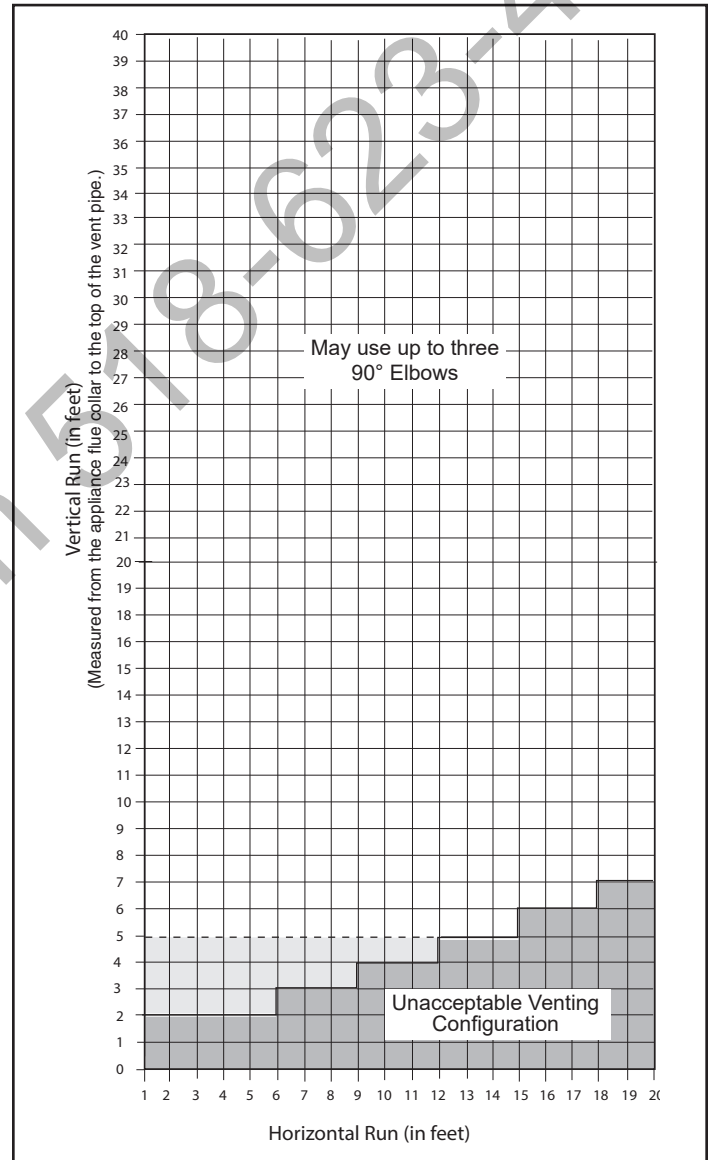

Figure 7 - Horizontal vent termination window.
The vent must rise vertically a minimum of 24" (610 mm) off the top of the unit, before the first elbow. The horizontal run may extend up to 20' (6 m) and include a vertical rise of up to 40' (12 m). (Figure 7) Horizontal termination must also meet the criteria shown in Figures 9 through 11.
- Approved vent systems must terminate above and including the heavy line in Figure 7.